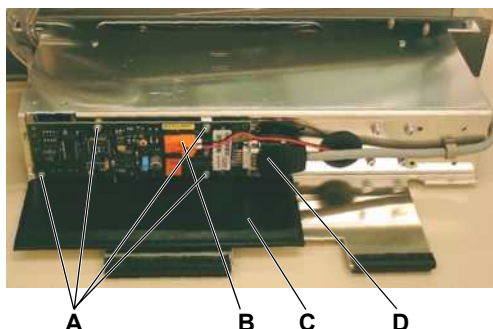

Fig. 8-183 MPO board
- Check the rubber apron (C, Fig. 8-183, ¶ 8-153) for damage. Replace, if necessary.